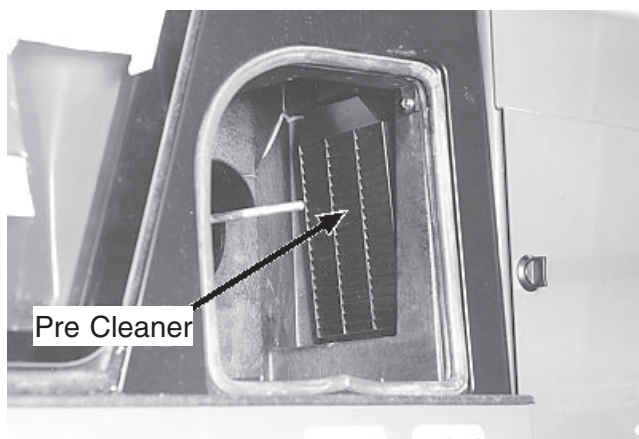

Figure 90. Pre cleaner
2. Push down on pre cleaner (A) and pull it out from the top. Hole in floor under pre cleaner must be kept open (see Figure 90).